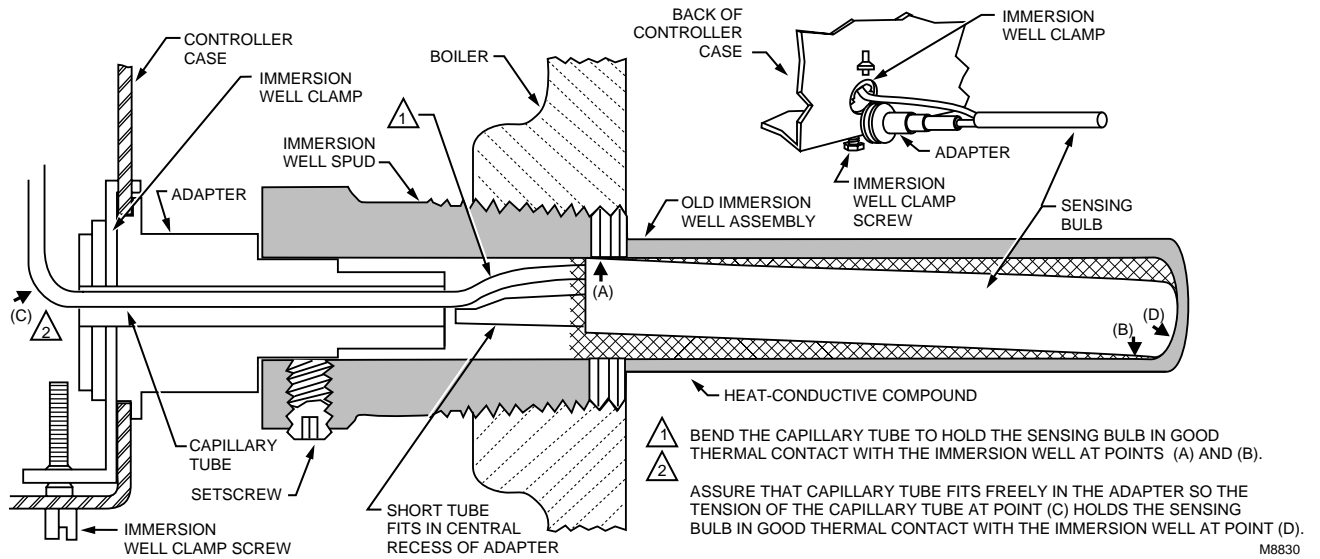

Fig. 9. Positioning the sensing bulb in the immersion well.
*Be sure that the sensing bulb fits snugly inside the immersion well and that the sensing bulb rests against the bottom of the immersion well. Refer to Fig. 9.*
- 3.** Fasten the R8182D immersion well clamp to the flange on the immersion well adapter. Refer to Fig. 9.
- 4.** Loosen the immersion well clamp screw. See Fig. 9.